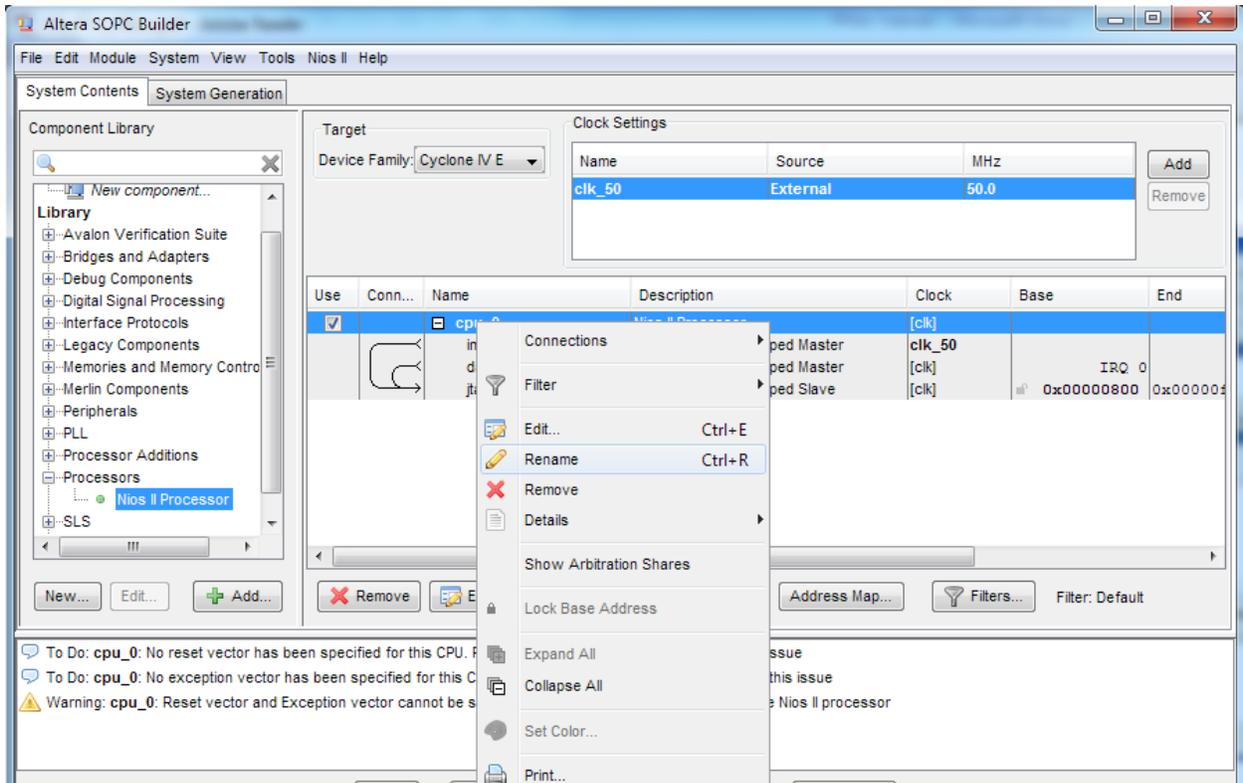
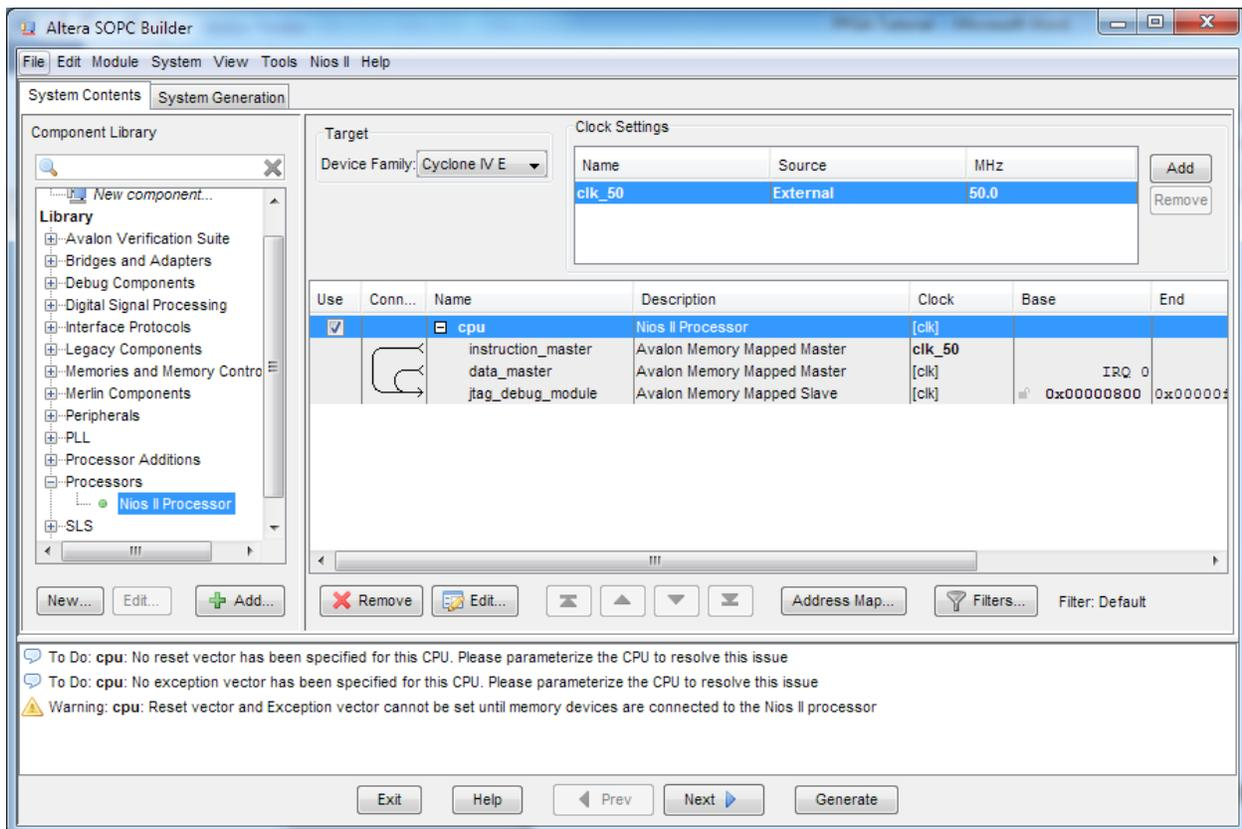

Figure 1-17 Rename CPU name (1)
Figure 1-18 Rename CPU Name (2)
10. Choose **cpu_0** and right-click then choose **rename**, after this, you can update **cpu_0** to **cpu**. See Figure 1-17 and Figure 1-18.